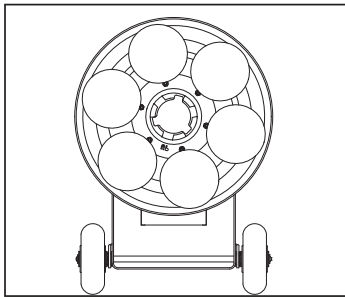

Figure 1A
6. Replace with new sanding abrasive. See figure 1A.